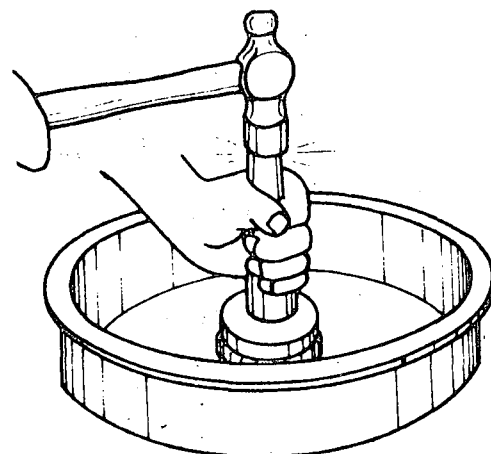

Fig 3
- c) Replace the inner bearing onto the race and replace the seal. (fig. 3).